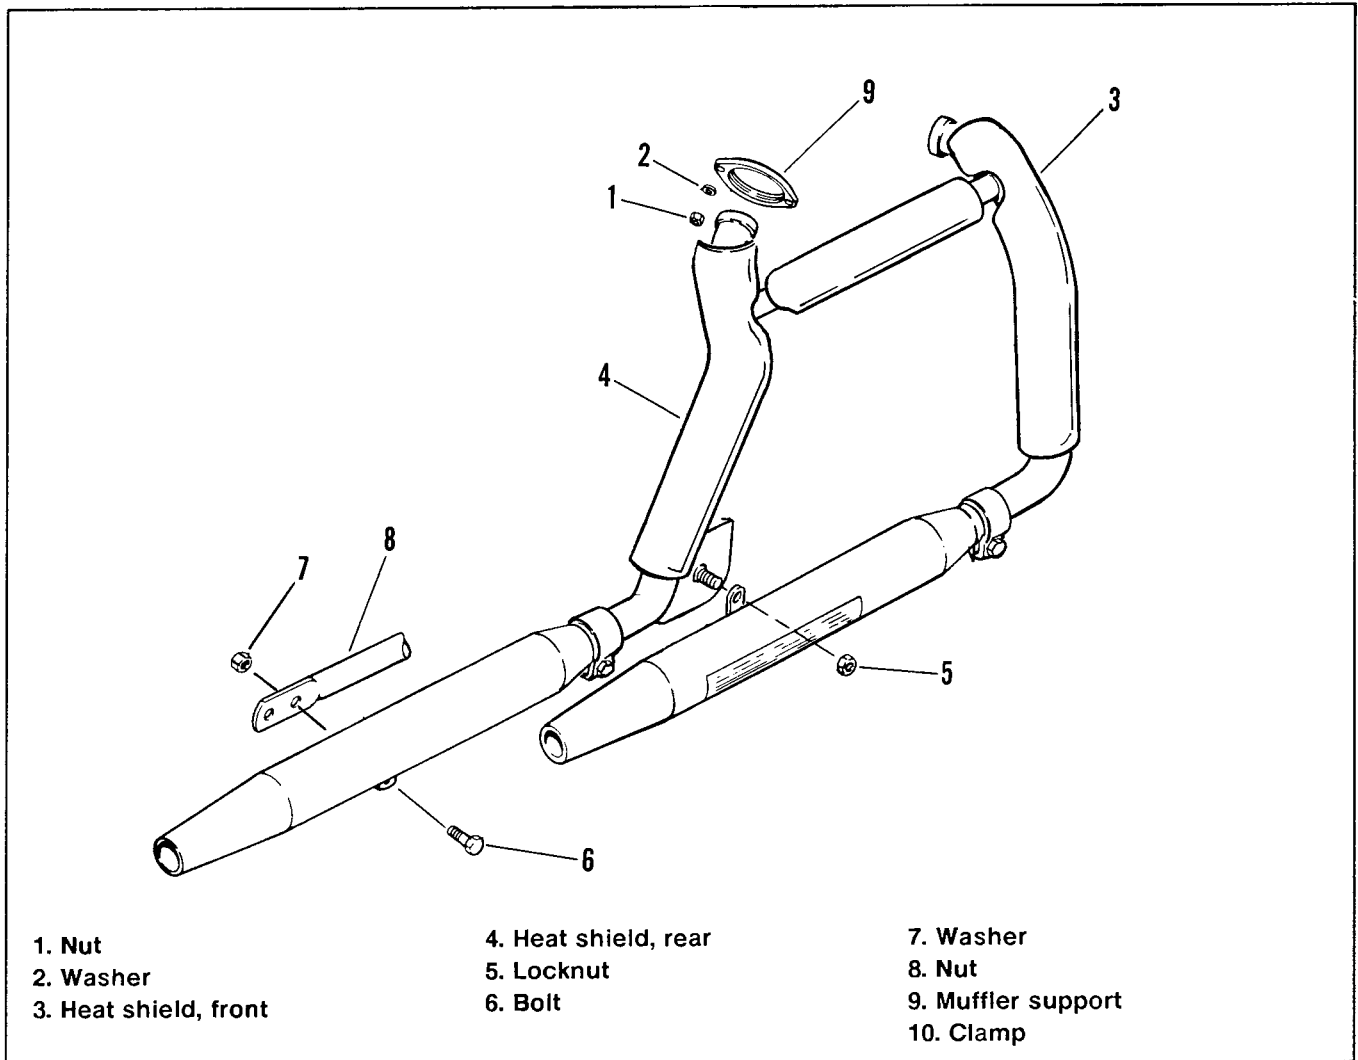

Figure 2. Exhaust System
2. Remove the two socket head screws (5) and washers (6) attaching master cylinder to sprocket cover (18).
3. At rear brake linkage, back-off on locknut (7) and turn push rod (8) at flats until rod end (19) is free of push rod.
4. See Figure 2. Loosen hose clamps at heat shields (3) and (4). Position shields to gain access to cylinder stud nuts (1).
5. With extension and flex socket, remove the cylinder stud nuts (1) and washers (2).
6. Remove locknut (5) attaching front muffler to sprocket cover stud.
7. Remove bolt (6) and nut (7) attaching rear muffler to muffler support (8).
13. Hold cover (18) with mount in place and install three mounting screws (11) with washers (12). Tighten screws (11) to 90-110 in-lbs torque.
14. Attach brake line to sprocket cover with clip (10) and Phillips screw (9).
15. See Figure 2. Place exhaust system in position with clamp rings (9) over studs in cylinder heads and front muffler tab over stud in sprocket cover.
16. Place washers (2) over cylinder studs and thread on nuts (1). Tighten nuts (1) to 60-80 in-lbs torque, using extension and flex socket.
17. Install nut (5) on sprocket cover stud and tighten to 50-60 ft-lbs torque.
18. Insert bolt (6) through rear muffler tab and hole in muffler support (9). Place lockwasher (7) on bolt (6) and thread on nut (8). Tighten nut (8) to 19 ft-lbs torque.
19. See Figure (1). Turn push rod (19) onto rod end (8) until foot pedal is nearly horizontal.
20. Place lockwashers (6) on master cylinder mounting screws (5). Insert screws through master cylinder, master cylinder stiffener (17) and thread into tapped holes in sprocket cover (18). Tighten mounting screws (5) to 155-190 in-lbs torque.
21. Adjust brake pedal to horizontal position and tighten locknut (7).